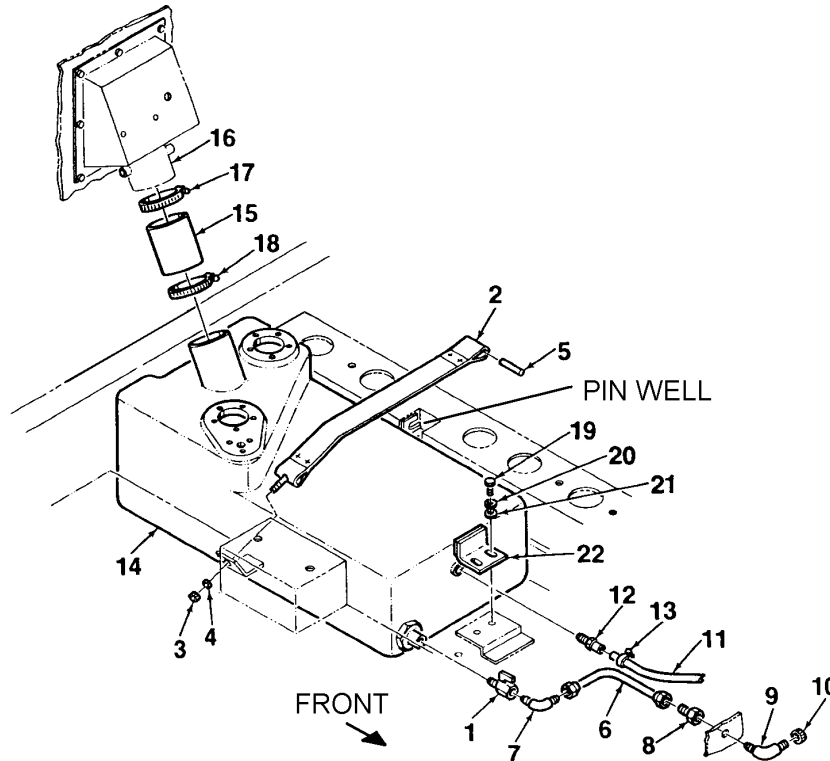

Figure 5-3. Fuel Tank
1. Place a suitable container (4 gallon capacity) beneath fuel drain. Open drain valve (1, Figure 5-3) and drain fuel into container. Close drain valve.
3. Remove jam nut (3) and washer (4) from hold down bracket (2). Carefully pry pin (5) from pin well to remove hold down bracket.
4. Disconnect fuel drain line (6) from bulkhead fitting (8). Remove bulkhead fitting, elbow (9), and nut (10).
5. Disconnect fuel return line (11) from fitting (12) by loosening hose clamp (13). Disconnect opposite end of line (to fuel injector) from tee.
6. Remove rubber hose (15) from fuel tank filler neck and fuel pocket (16) by loosening clamps (17, 18).
7. Remove tank bracket (22) from skid base by removing screws (19), lockwashers (20), and washers (21).
8. Slide fuel tank (14) towards drain valve (1) and lift rear of tank to remove from skid base.
9. Disconnect fuel drain line (6) from elbow (7). Remove elbow (7), drain valve (1), and fitting (12) from fuel tank (14).
1. Install drain valve (1, Figure 5-3), elbow (7), and fitting (12) into fuel tank (14). Connect fuel drain line (6) to elbow (7).
2. Place fuel tank (14) into skid base and slide into place. Secure tank bracket (22) using screws (19), lockwashers (20), and washers (21). Torque screws to 30 ft-lbs.
3. Connect rubber hose (15) between fuel tank filler neck and fuel pocket (16). Tighten clamps (17, 18).
4. Connect fuel return line (11) to fitting (12) and tighten hose clamp (13). Connect opposite end of line (to fuel injector) to tee.
5. Install bulkhead fitting (8), elbow (9), and nut (10) onto skid base. Connect drain hose (6) to fitting (8).
6. Install hold down bracket (2) using jam nut (3), washer (4), and pin (5).